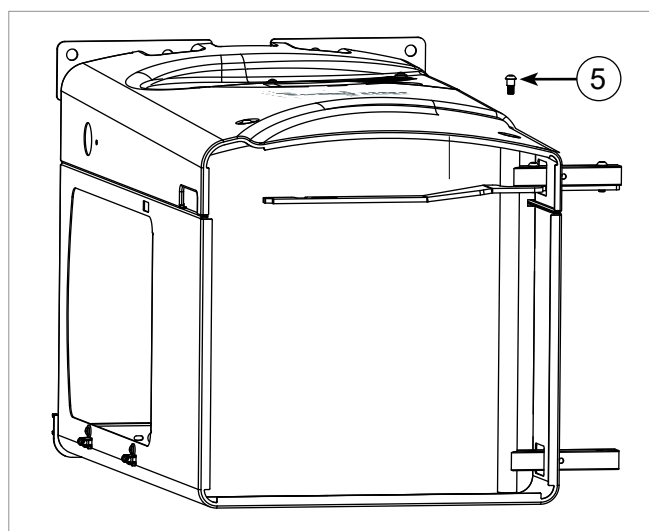

Fig. 6
6. Align the front end of the caster support with the mounting hole in the lower right corner of the front of the cabinet and secure that end of the caster support to the cabinet with an M8 x 20 button head shoulder socket bolt (see Fig. 6). Note that this bolt is different than the bolt used to secure the rear of the caster support to the cabinet. Fully tighten the bolt using a 5 mm hex key.